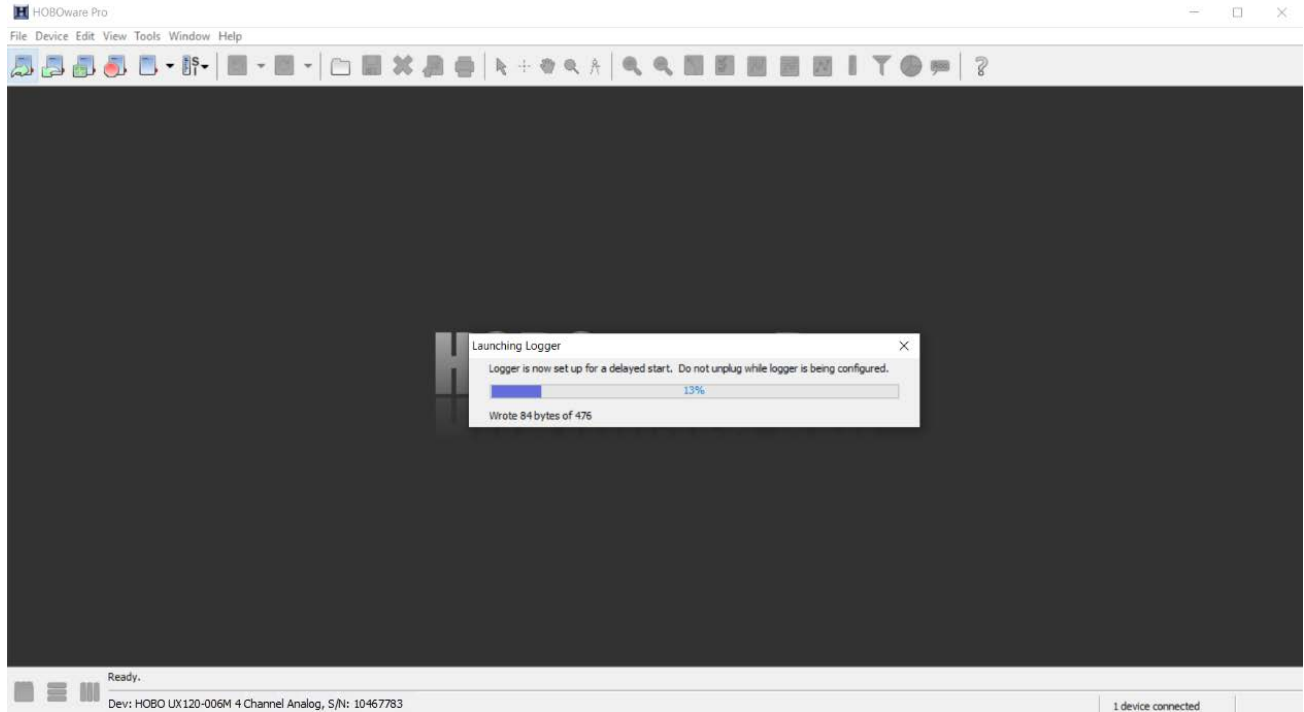

Figure A.4.9: Launching the logger using the HOBOWare software.
11. Click “Delayed Start” to complete the configuration process. Do not unplug the logger from the computer until deployment is complete (shown in Figure A.4.9).